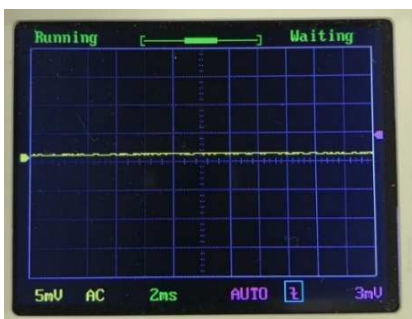

Fig.6
2) Press the "TRIGGER" button and check if "Type" area is selected as the trigger condition. Turn the adjustment knob in to a down arrow sign. Check if the down arrow sign is displayed on the menu bar (Fig.6).